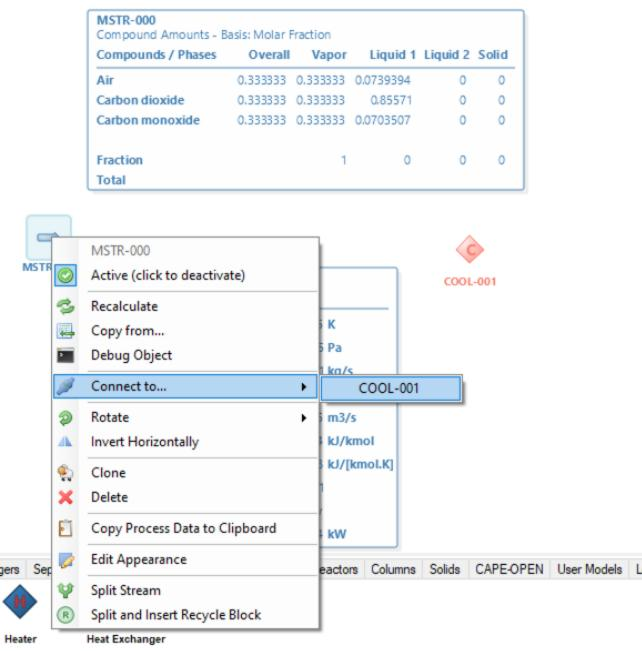

Figure 22: Selected object context menu.
- Through the context menu activated with a right mouse button click over the object (Figure 22);
Removing objects from the flowsheet The selected object can be removed from the flowsheet by pressing the DEL keyboard button or by using the context menu - "Delete" item (Figure 22).